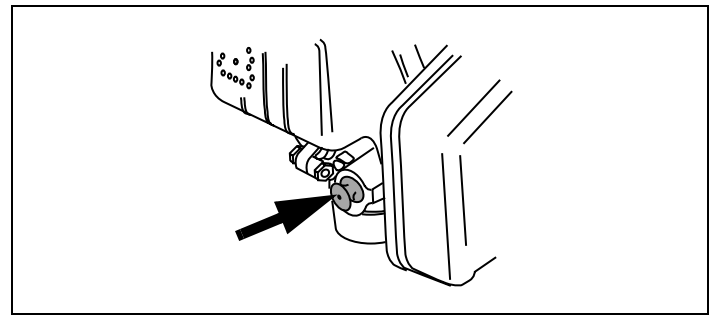

Figure 14. Engine Primer Bulb
- When starting a cold engine, push primer bulb firmly with your thumb 3 times, allowing primer bulb to return completely to original position between pushes. See Figure 14.